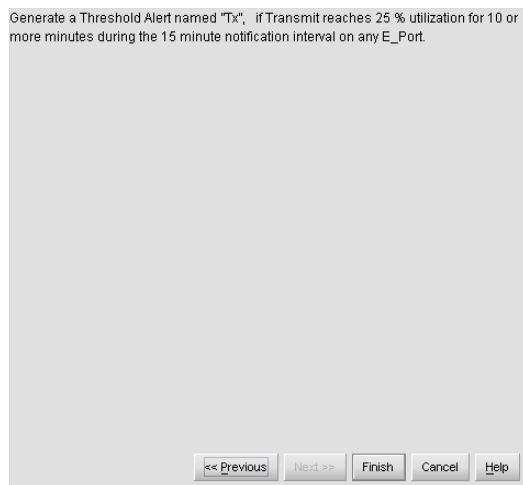

Figure 48: New Threshold Alerts dialog box - summary screen
11. Click **Next**. A final screen displays a summary of your alert configuration, as shown in Figure 48.